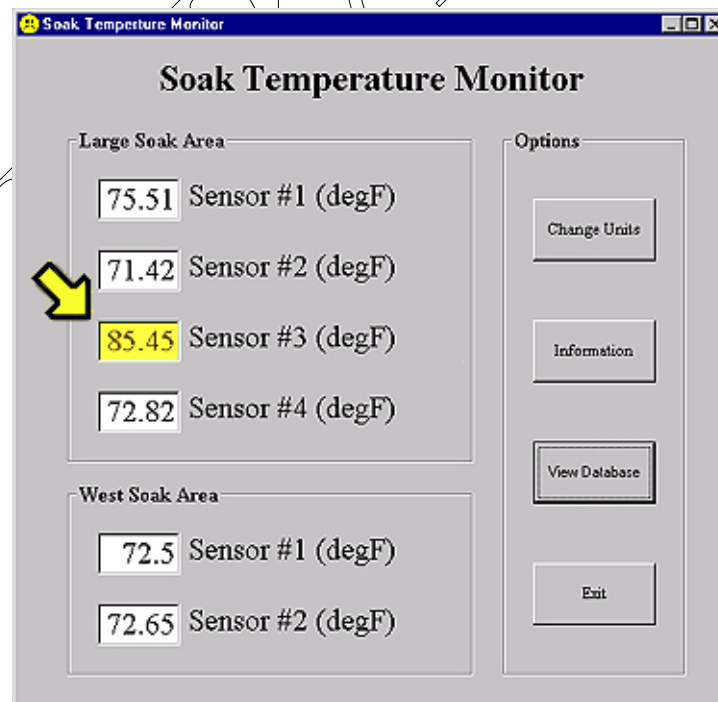

Figure 4
- 104 If the soak area temperature is within 2 °F of violating the 68 - 86 °F requirement, the text-box background color will turn yellow and an audible warning will be emitted, to alert the technician that an out-of-tolerance temperature condition may be eminent. See the arrow in Figure 4.